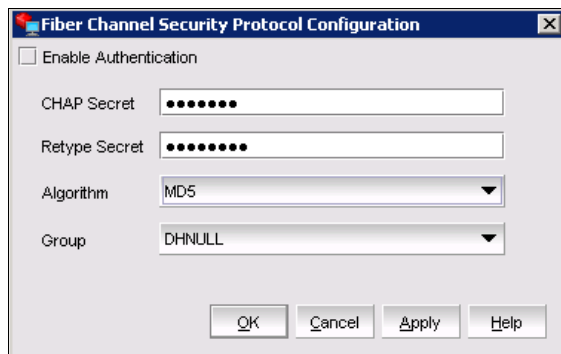

Figure 10-10 Port level Fibre Channel Security Protocol Configuration dialog box
- From the adapter port level, right click a port and select **FC-SP** → **Authentication** from the list. The port level Fibre Channel Security Protocol Configuration dialog box displays, as shown in Figure 10-10.